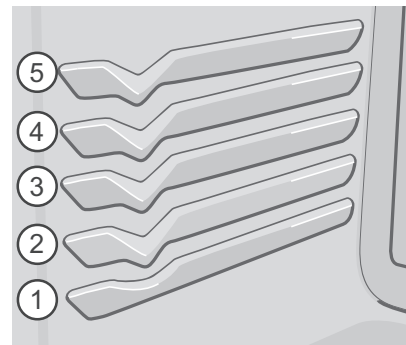
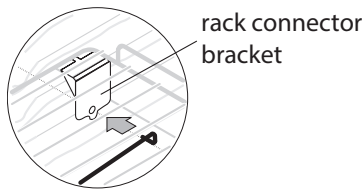

Figure 19: Rack positions
Figure 20: Bracket must be at rear of the range
The Effortless™ Oven Rack system can be used in oven rack positions 1, 2, or 3 (Figure 19, below). Placing any oven rack in any other position will prevent the oven door from fully closing and may damage the oven door, oven cavity, or the door connector brackets.
4. Place the oven rack in positions 2, 3, or 4 only (Figure 19 to verify positions). Be sure the rack connector brackets are at the rear of the range and pointing towards oven bottom (Figure 20).